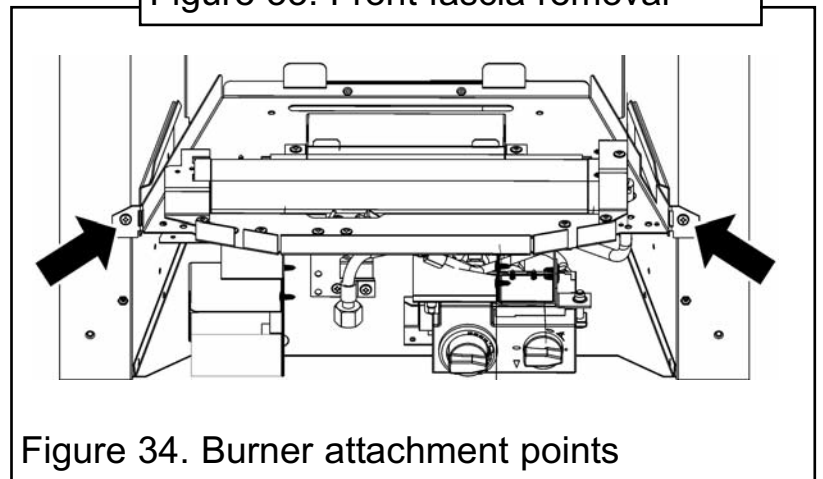

Figure 34. Burner attachment points
4. Detach the burner unit from the hotbox by removing two screws (See figure 34).